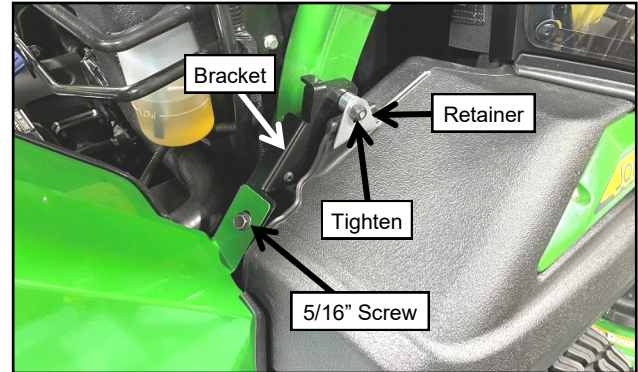

Fig. 2.34 (Tighten Hardware to Clamp Fender)
**2.34** Per Figure 2.34, tighten hardware clamping the right fender. Making sure retainer sits in groove found in fender. Note: 5/16-18 screw may need to be adjusted so compressor shroud has proper fit with bracket.